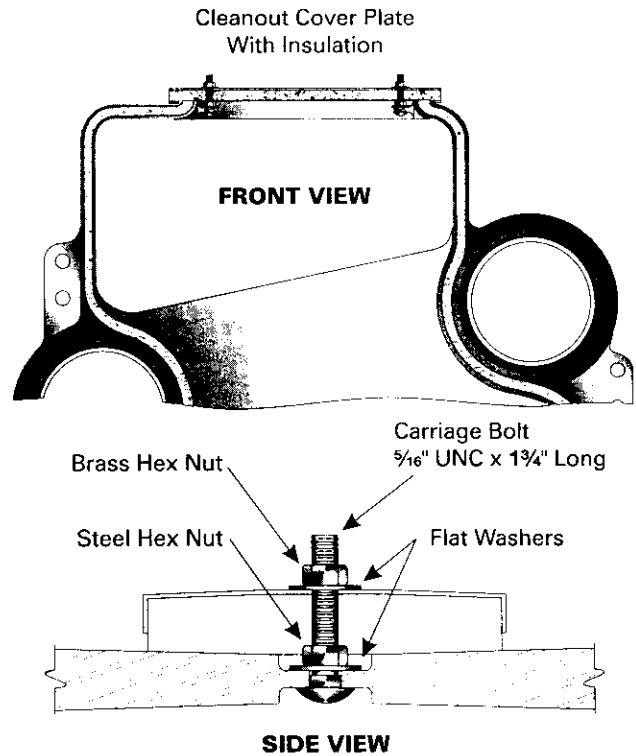

Figure 15: Install Cleanout Cover Plates
1. Apply the Cleanout Cover Plates on the tops of the section joints as shown in Figure 15.